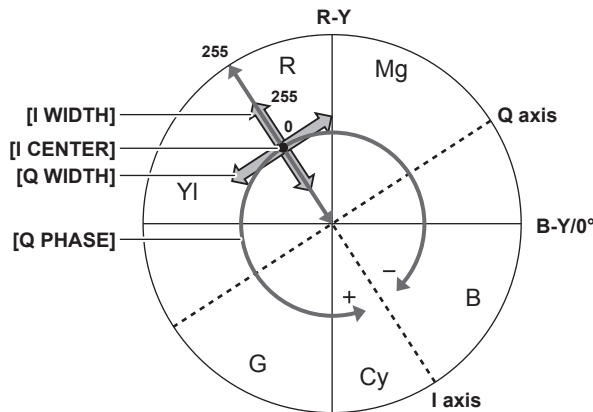

Fig. 1
• The color composition of video signal (R/G/B) can be converted to color difference signal (R-Y/B-Y) as in (Fig. 1). Within those ranges, set the area on which the following skin tone is applied, using the axis across red and cyan (I axis) and the axis across green and magenta (Q axis).